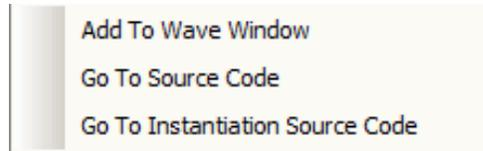

Figure 3-8: Context Menu in Scopes Window
**TIP:** To access source files for editing, you can open files from the Scopes or Objects window by selecting **Go to Source Code**, as shown in Figure 3-8.